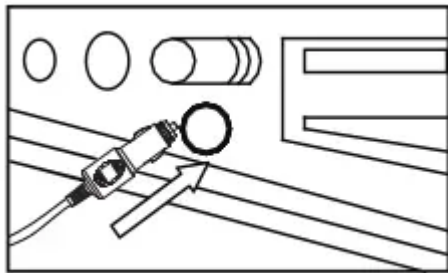

Figure 8
- + The applied power source must be the 12V DC power source (as Figure 8).
- + Do not block the inflation inlet (1) and Deflation outlet (2). and ensure that the inflation inlet (1) and Deflation outlet (2) shall remain smooth at all times.